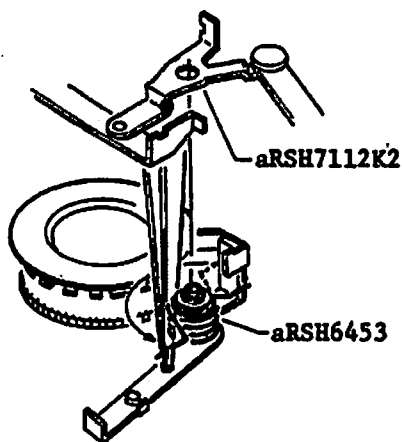

Fig. 117
- (1) Keep Spring (aRSH6453) wound for  $\frac{1}{2}$  turn with a tweezer. (Fig. 117 )
- (2) Attach Charging lever and hook the spring on the lever as shown in Fig. 117 and 118.